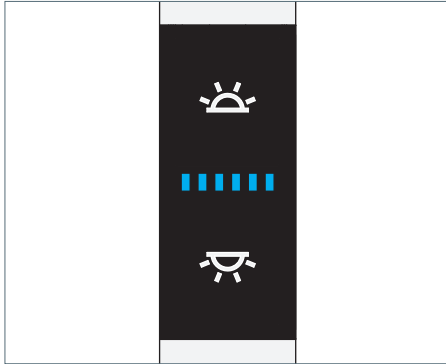

Fig. 11: Operating element.
- Press the upper switch, see Fig. 11.
- Press the lower switch, see Fig. 11.
- Press the lower switch and keep it depressed, see Fig. 11.
- Press the upper switch and keep it depressed for at least one second, see Fig. 11.
- Press the upper switch and keep it depressed for at least one second or switch VTL off and on again, see Fig. 11. The blue LED in the sensor system is not lit.